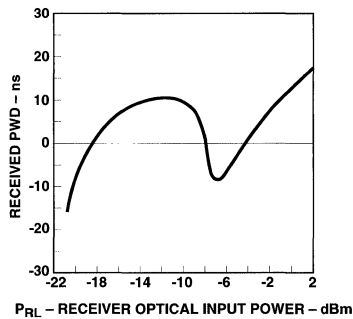

Figure 2. Typical PO F Receiver Pulse Width Distortion vs. Optical Power at 10 MBd.
- Receiver overdrive ($P_{RL,max}$) is specified as the limit where |PWD| will not exceed 30 ns. The receiver will be in the correct state (logic “0”) for optical powers above $P_{RL,max}$. However, it may not meet a 30% symbol period PWD if the overdrive limit is exceeded. Refer to Figure 2 for PWD performance at high received optical powers.